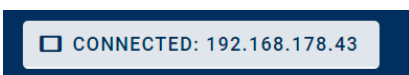

Figure 37
7. Press **Close**. The IP address of the connected tablet is displayed in the easyTone Companion Software (Figure 37).